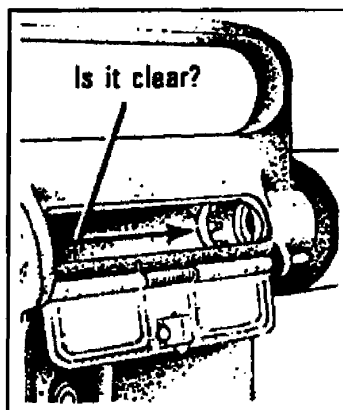

Figure 071-311-2027-2. Inspecting the chamber.
- f. Insert the magazine, pushing it upward until the magazine catch engages and holds the magazine (figure 071-311-2027-3).